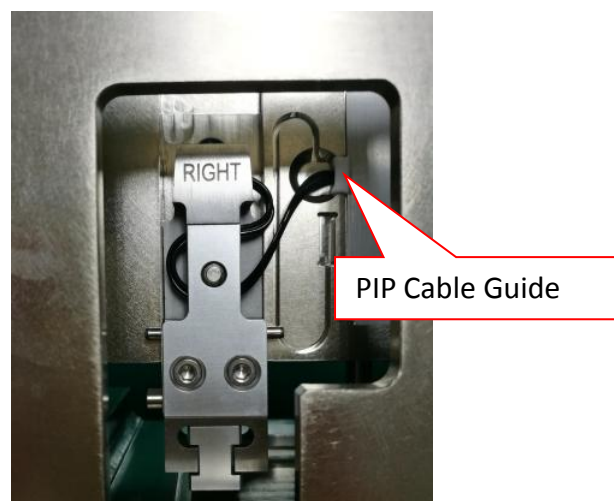

Figure 27 PIP Cable Guide Removal
6. Remove PIP Cable Guide as shown in Figure 27